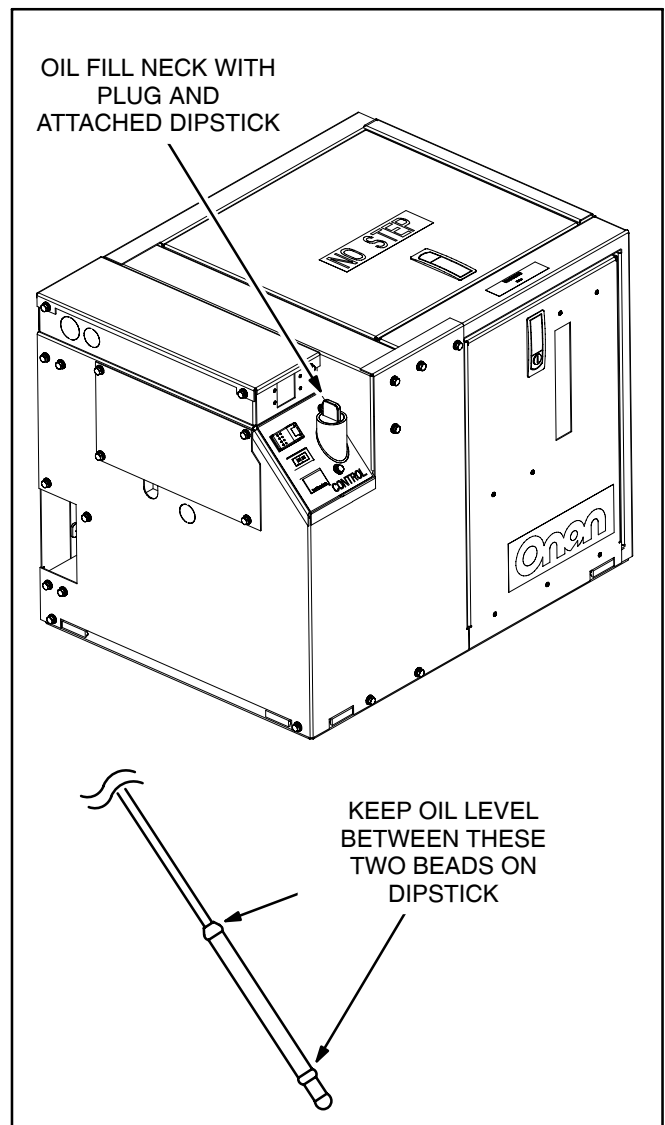
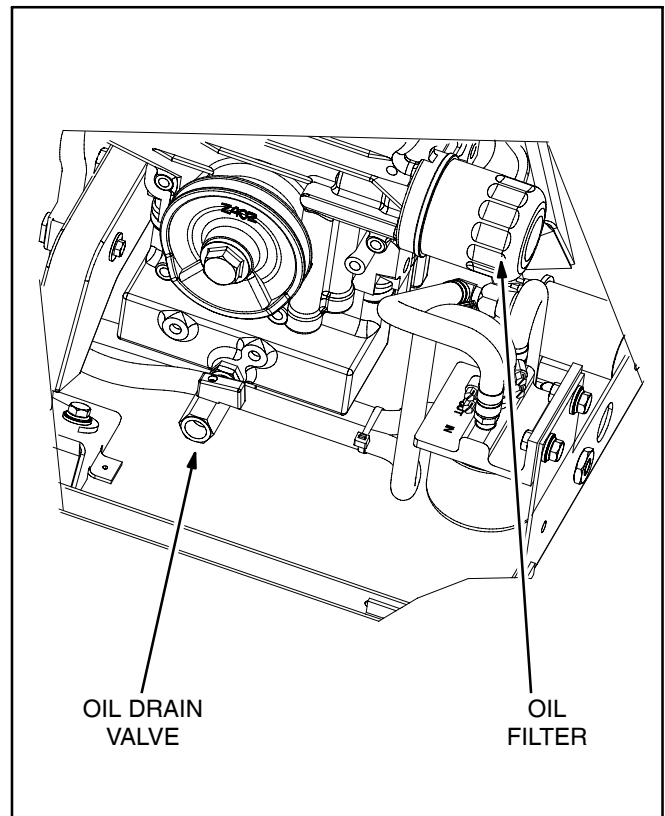

FIGURE 3-1. OIL FILL NECK AND DIPSTICK
FIGURE 3-2. OIL FILTER AND DRAIN VALVE
1. Pull the plug and dipstick out of the oil fill neck (Figure 3-1). The plug may be difficult to pull straight out. It is easier if you tilt the plug in its socket while pulling out. Wipe off the dipstick and thread it back into the fill neck and seat the plug, which snaps into its socket. Remove the plug and dipstick again and check the oil level on the dip stick.
2. Remove the oil fill plug (Figure 3-1), open the front access door and drain the engine oil into a container by opening the drain valve (Figure 3-2). (The drain valve has a 3/8 NPT outlet for connecting a hose fitting to facilitate oil draining.) If an oil pump-out system is installed, follow the instructions provided.
4. Spin off the old oil filter (Figure 3-2) and wipe off the filter mounting surface. (A filter wrench is available from Onan.) Remove the old gasket if it does not come off with the filter.